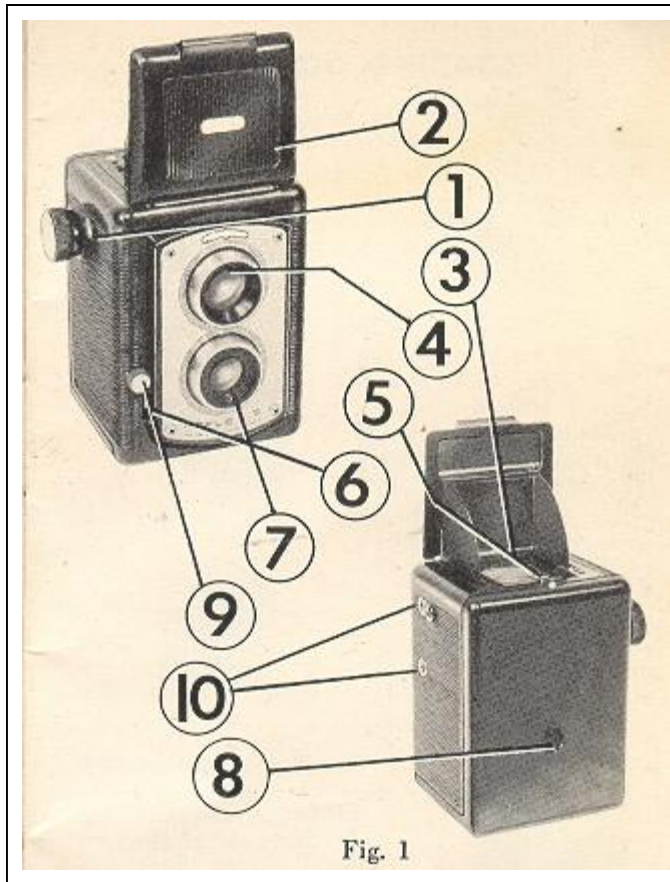

Fig. 1
A. To load press the film door Sock button down (No. 5, Fig. 1) and when the back cover is slightly open swing the back cover **DOWNWARD**. (See arrows in Fig. 2.)
D. Now turn the winding knob (No. 1, Fig. 1) clockwise for 2 or 3 turns to securely anchor the paper into the "take up" spool. Make sure that the paper is securely held onto the spool and is *winding straight* before closing the camera back. (See Fig. 4.)
E. Now you are ready to wind film into place for the first picture. Turn winding knob (clock. wise) until Figure 1 appears centered under red film window in back of camera. You are now ready to take the first picture. Repeat this procedure for each succeeding picture number.
A. Open the viewfinder hood (No. 2, Fig. 1) by inserting thumb under projection at rear of hood, and lift to upright position. When pointing camera at subject, prior to snapping picture, the image you see on picture screen will be identical to picture you will have after taking picture. (See Fig. 6.)
B. Hold the camera steady, using both hands at waist level, (higher or lower for special effects), and adjust the direction of the camera until you see in the picture image screen, the image you want in the finished picture. Now press the shutter release lever (No. 9, Fig. 1), down with a *slow, smooth* action until the shutter "clicks."
B. Attach your REFLEX II FLASH ATTACHMENT to the camera by inserting the two FLASH CONTACT PINS (No. 5, Fig. 7) into the flash contact receptacles (No. 10, Fig. 1), on the side of the camera. Push pins in all the way until flash attachment is bearing on the side of the camera. (See Fig. 9.)
To take a perfect flash picture with your new United States Camera Corp. Camera and Lifetime Flash Outfit you must stand the proper distance from the subject (as shown below). Compose the picture in the finder and when satisfied subject is in the center of the viewing lens, depress the trigger lever, (No. 9, Fig. 1) all the way down.